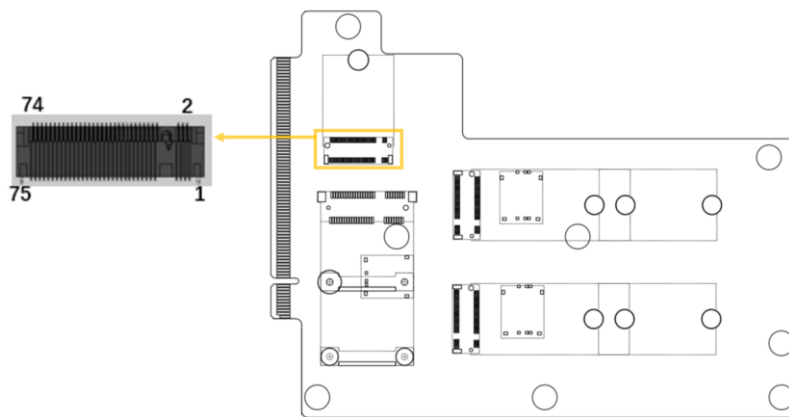

Figure 4-2: M.2 A-key Slot Location
- CN Location:** See **Figure 4-2**